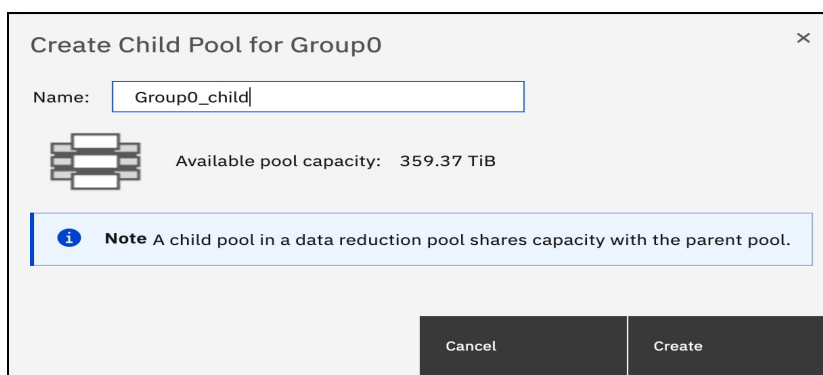

Figure 4-10 Create Child Pool window
- e. Click **Create** (see Figure 4-10).